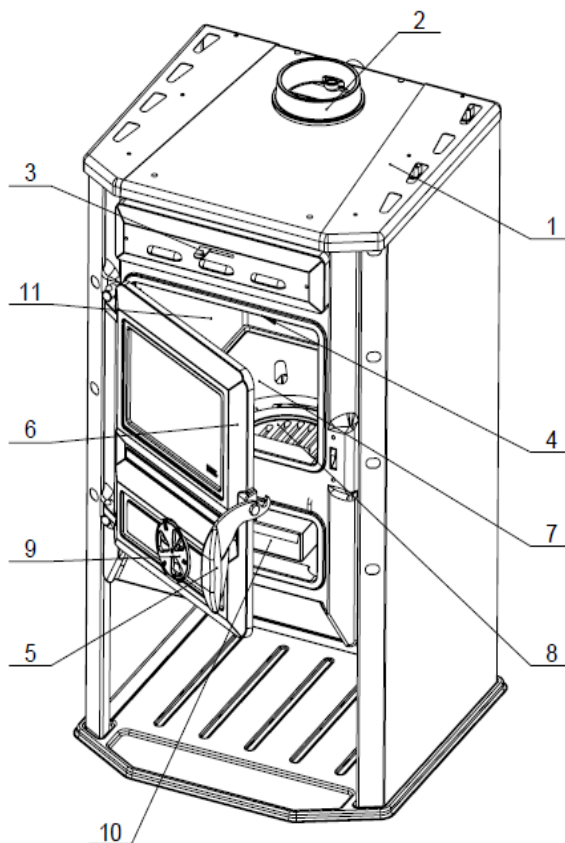

Fig. 1. integral parts of the stove CAROBNA HYDRO
Wood burning stove CAROBNA HYDRO is manufactured and tested according to European standard EN 13240. Figure 1 shows the layout of the stove with integral parts essential for handling.
Wood burning stove CAROBNA HYDRO has a boiler (fig. 1, pos. 11) capacity of 10l, which is made of boiler plate thickness prescribed standards. Such preparation increases the working life of the boiler. Connections for water are 1“.
The upper plate of the fireplace is made of steel. (fig. 1, pos. 1)
Firebox doors (fig. 1, pos. 6) are made of steel with fireproof glass.
Connection for smoke drains being put on the plate and connected with screws. (fig. 1, pos 2.) and are made of cast iron
The grid in the combustion chamber (fig. 1, pos. 8) is made of cast iron.
- leave open primary air regulator (opposite of clockwise direction) until the flame gets stable and after having stabilized the flame, control burning intensity with drafts regulator (Fig. 1, pos. 9)
- secondary air regulator leave opened until the flame gets stable and after having stabilized the flame, control burning intensity with regulator (Fig. 1, poz.3)
- when adding fuel, open the fire door (Fig. 1, pos. 4) step by step wait for 4-5 seconds, and then slowly open it wide.
Regulating the draft in the stove, you can regulate temperature, power and the combustion of fuel, and this is done by running draft regulator on the firebox door (Fig. 1, pos. 11). Combining primary air regulator and secondary air over the leverage above the firebox door (Fig. 1, pos. 3) you get desired combustion.